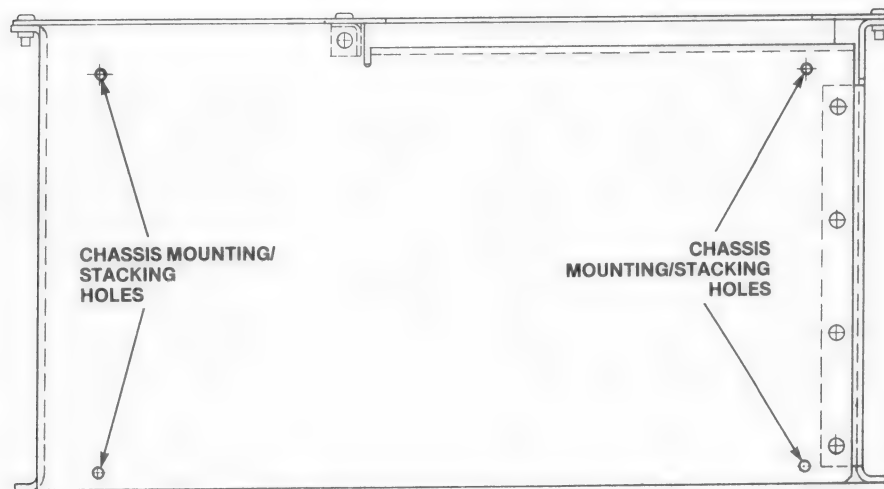

Figure 2-3. Chassis Mounting/Stacking Holes
mounting purposes (see Figure 2-3). When an iSBC 608 Cardcage is attached to an iSBC 618 Expansion Cardcage the stacked pair may be used with the mounting rails for installation in an EIA compatible (19-inch) rack. See section 2-10 for stacking instructions.
- Install the four 8-32 screws as shown in Figure 2-3, and tighten.